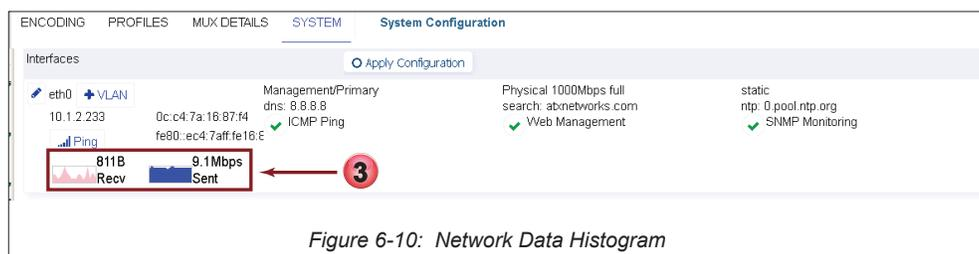

Figure 6-10: Network Data Histogram
3. A Histogram of network data sent and received over each individual interface is updated every 10 seconds and shows continuous history for as long as the window is open, Figure 6-10. The current data rate is also shown in Mbps or kbps. The data rate histogram is for comparative purposes only and is not calibrated.